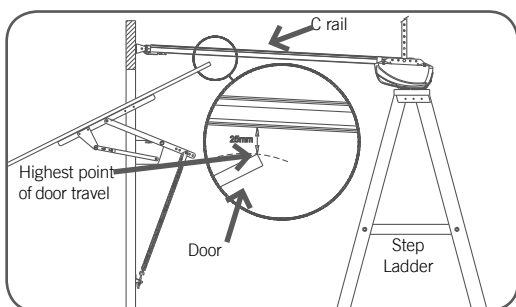

Fig. 16
- Stop the door when it is at its highest point of travel. Allow 25mm additional height for clearance between the door and the track (Fig. 16).